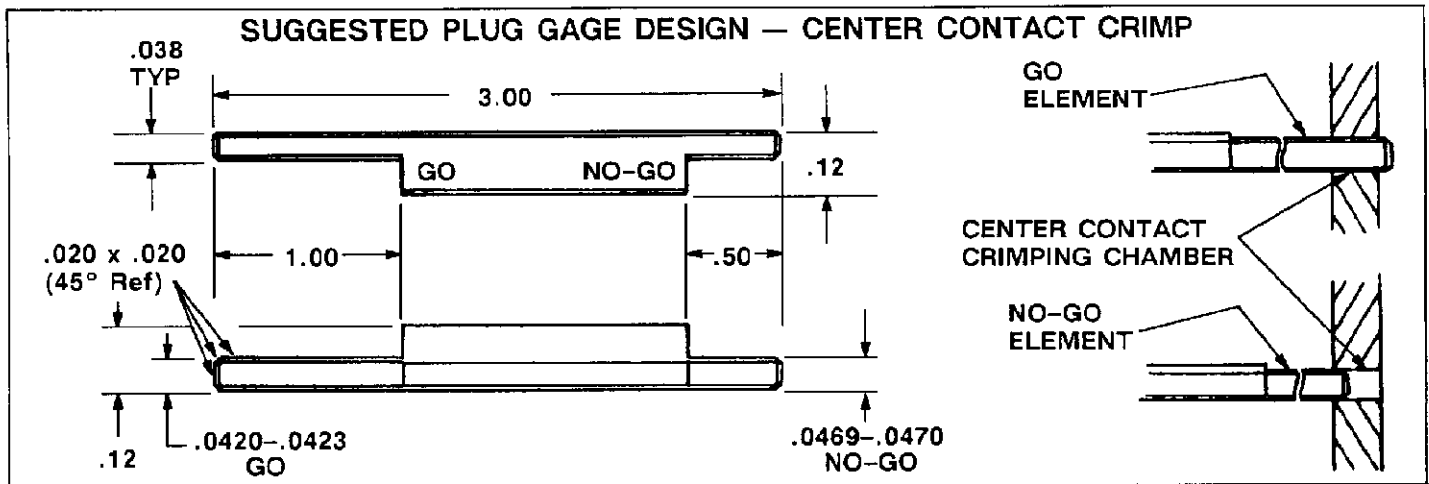
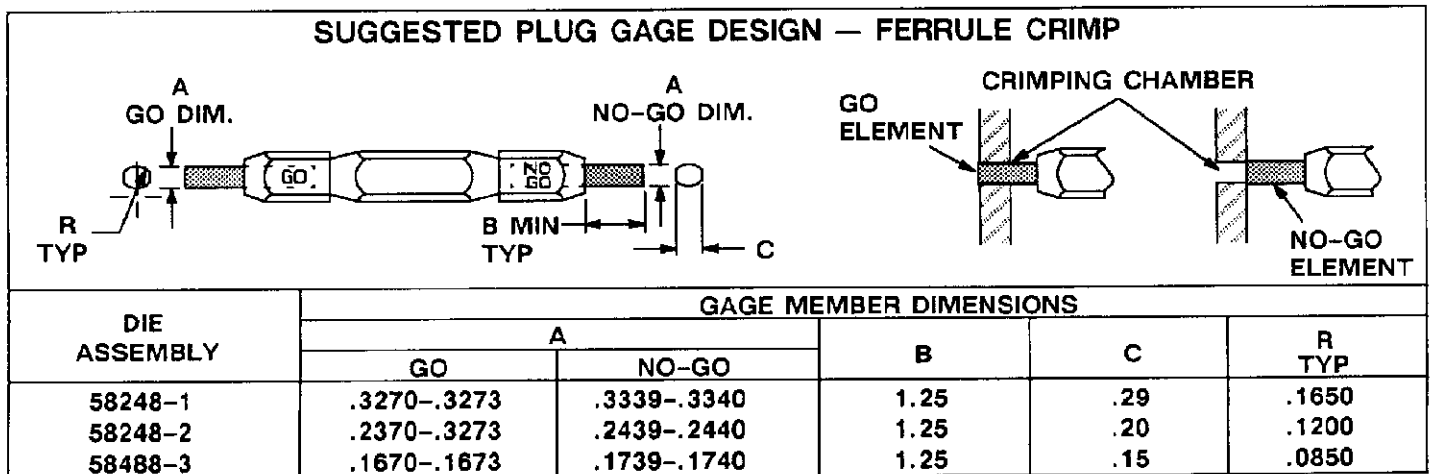

Fig. 7
Fig. 8
This inspection requires the use of two plug gages. One gage, shown in Figure 7, is used to inspect the center contact crimping chamber. Figure 8 illustrates the gage which is required for checking the ferrule crimping chamber. AMP does not manufacture or market these gages.
2. Align the GO element with the proper crimping chamber. Push element straight into the crimping chamber without using force. The GO element must pass completely through the crimping chamber as shown in Figure 7 and 8.
3. Align the NO-GO element and try to insert it straight into the same crimping chamber. The NO-GO element may start entry but must not pass completely through, as shown in Figures 7 and 8.